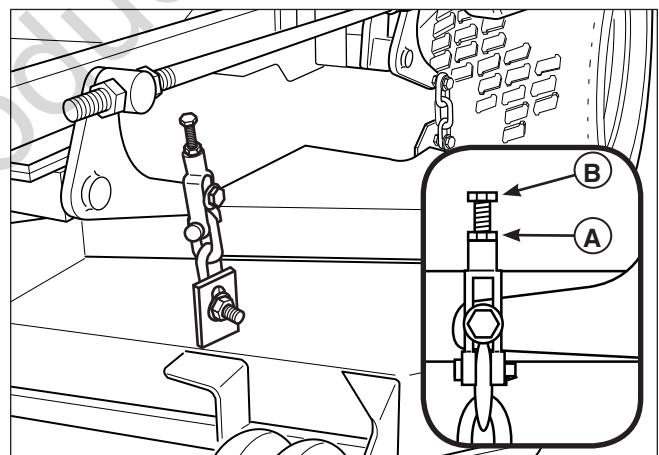

Figure 43. Fine Adjustment
1. Loosen the jam nut (A, Figure 43) and turn the fine adjustment bolt (B) to adjust the deck height until the front measurements equals 4" (10,2 cm). Turn the bolt CLOCKWISE to raise the deck; COUNTER-CLOCKWISE to lower the deck.